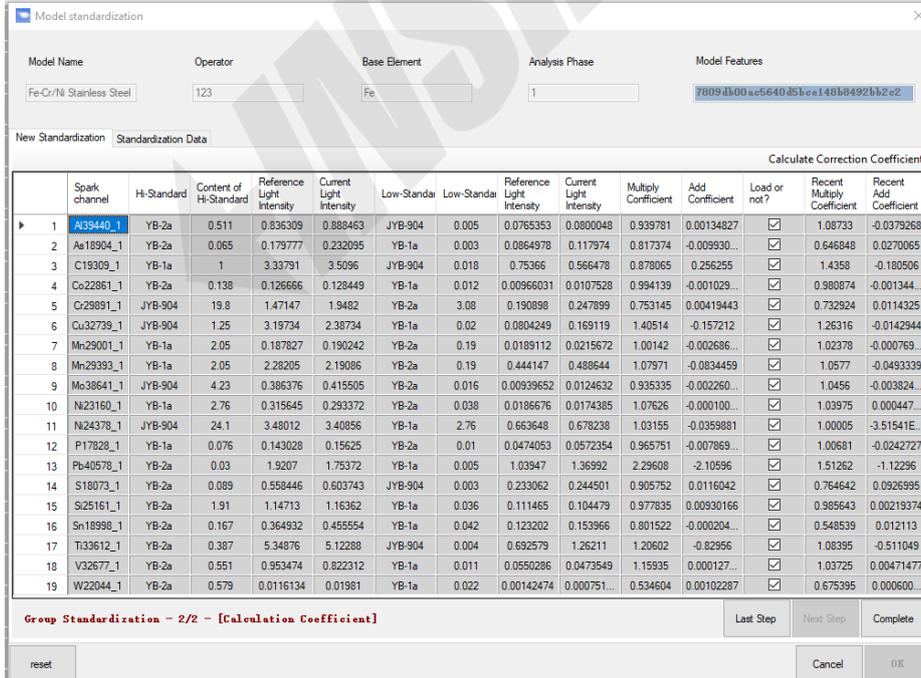

Figure 4-18 Save data
Step 4 Save the standardized data, click “Complete”, “OK”, wait for 10 seconds, then click “Confirm”, wait for another 10 seconds, the software will automatically jump, as shown in Figure 4-18: